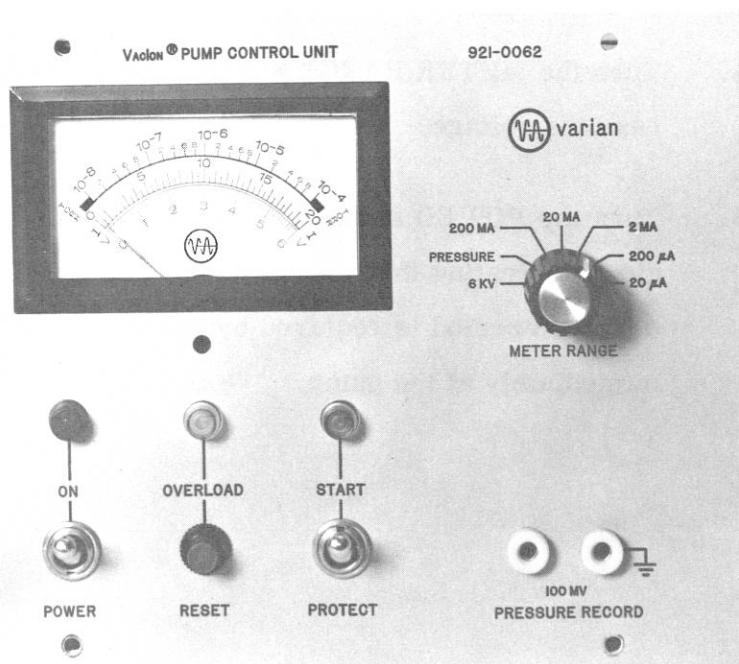

Figure 6. Pump Control Unit, Front View
3. Place the START-PROTECT switch in the START position. The light above the switch will glow (Figure 6).